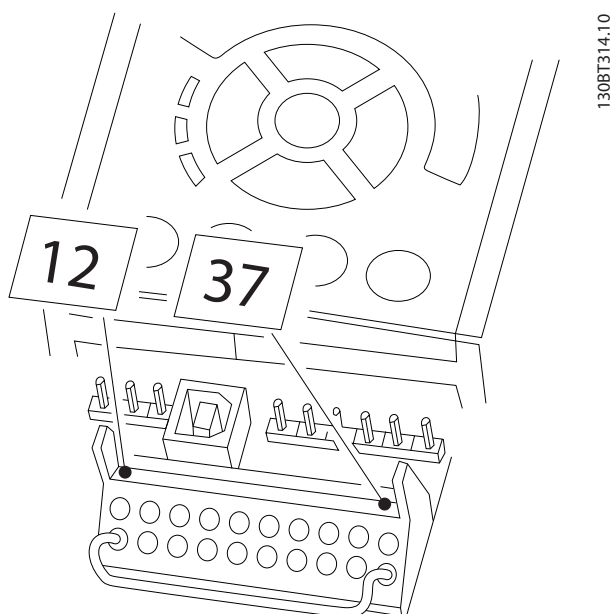

Figure 2.1 Bridge Jumper Between Terminal 37 and 24 V DC
1. Remove the bridge (jumper) between terminal 37 and 24 V DC. Cutting or breaking the jumper is not sufficient. Remove it entirely to avoid short-circuiting. See jumper in *Figure 2.1*.